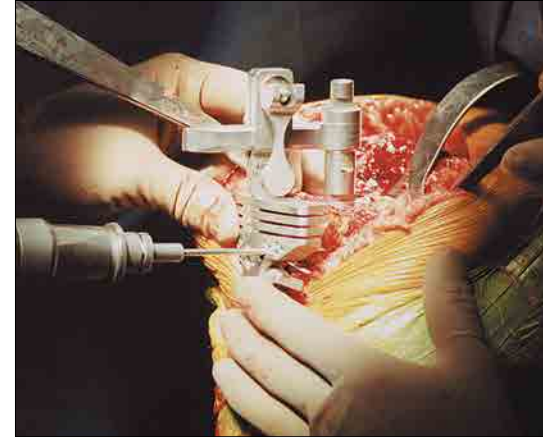

Figure 3
- Secure resection guide with two 1/8” pins, using the “0” drill holes (Figure 3)